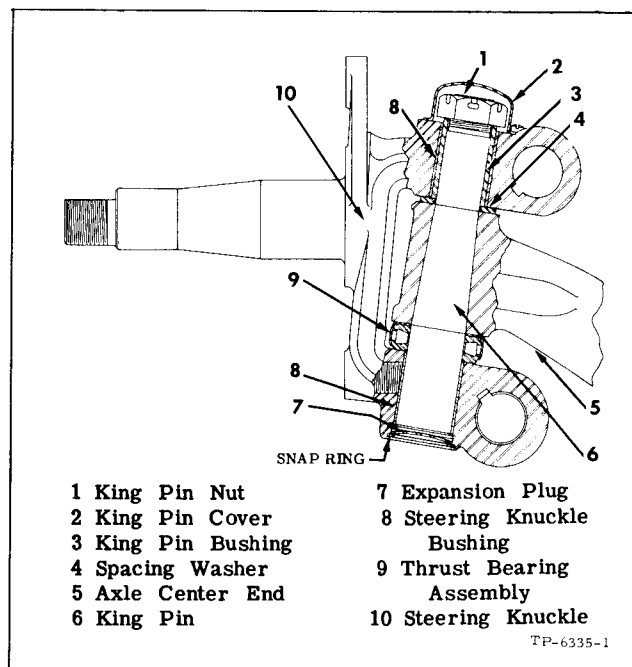

Figure 1—Steering Knuckle Assembly
Front axle assembly is Reverse Elliott type. Axles are equipped with steering knuckles constructed as shown in figure 1.
Steering knuckles (fig. 1) are supported on solid king pins which are tapered at center section to fit snugly in tapered holes in axle outer ends. Nut installed at threaded upper end of each king pin locks king pin bushing (3, fig. 1) against washer (4, fig. 1) and secures king pin in axle. King pin nuts are secured by cotter pins.
Load is transmitted from axle center to steering knuckles through tapered roller thrust bearing assemblies (9, fig. 1). Covers and plugs (2 and 7, fig. 1) exclude dust and moisture from knuckle bushings and serve as lubricant seals. Steering knuckle bushings can be replaced when necessary. Stop screws installed at each end of axle center limit turning angle of front wheels.
8. Periodic inspection should be made at steering knuckles to determine if excessive up-and-down movement of knuckles on king pins exists. Since excessive pounding will damage thrust bearing (9, fig. 1), the up-and-down movement of steer-